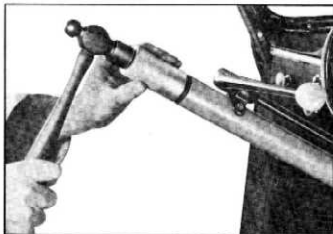

Fig. 9—Replacing Mast Jacket Upper Bearing
6. Transfer the tie wire to end of wire attached to new bearing assembly. Start bearing into mast jacket and drive it into place with special driver J-2565 (fig. 9).